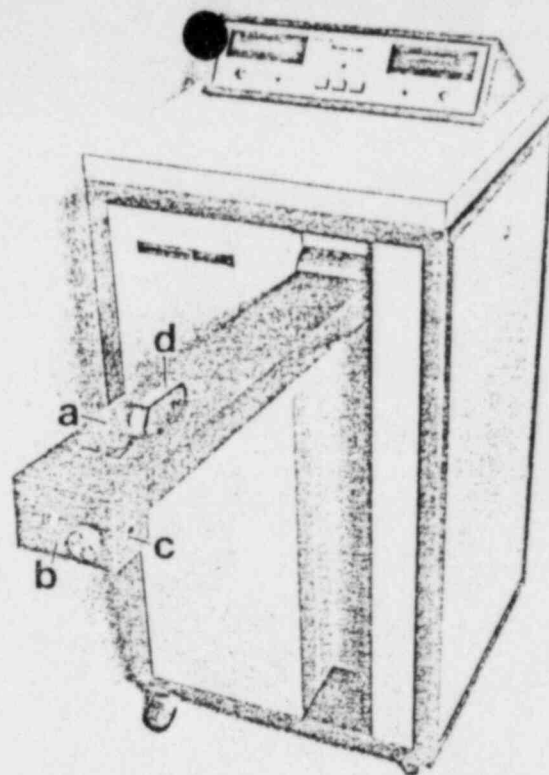

Figure 4. Ventil-Con with delivery arm extended.
**1.2.4 Delivery Arm (Figure 4)** - The delivery arm is 31 inches long (including valve head) and is infinitely adjustable to a maximum breathing port height of 60 inches. The arm is completely lead shielded to prevent interference with the gamma camera and to minimize patient and technician exposure. The valve head employs the Radx patented three-way valve which transfers the patient from the "stabilization-washout" loop to the "closed-rebreathing" loop.
4.1 Description - The delivery arm (See Figure 4) is the only part of the Ventil-Con with which the patient is concerned. It is infinitely adjustable to any breathing height up to 60 inches, completely shielded, contains the Radx patented three-way valve, and carries the gas/air mixture to the patient.